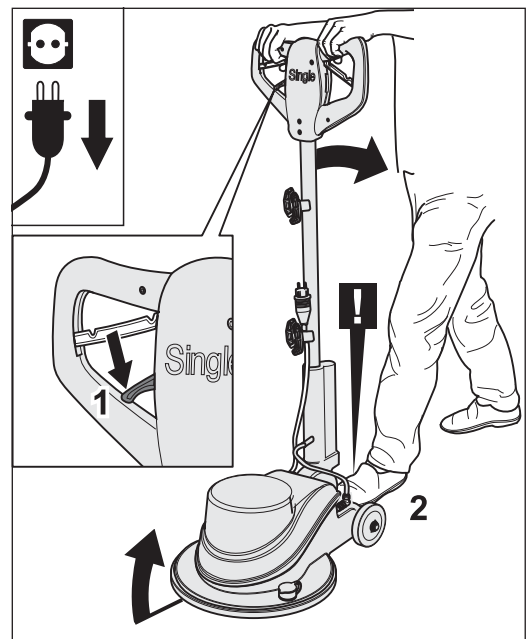

Fig. 14 Release the adjusting lever and carefully tilt the machine backwards. Ensure that the machine is stable!
- 4 Release the adjusting lever so that the guide tube can engage again. Carefully tilt the machine backwards on the wheels. As you do so, steady the machine with your foot to stop it rolling away (Fig. 14). **Please ensure that the machine is stable before commencing work!**